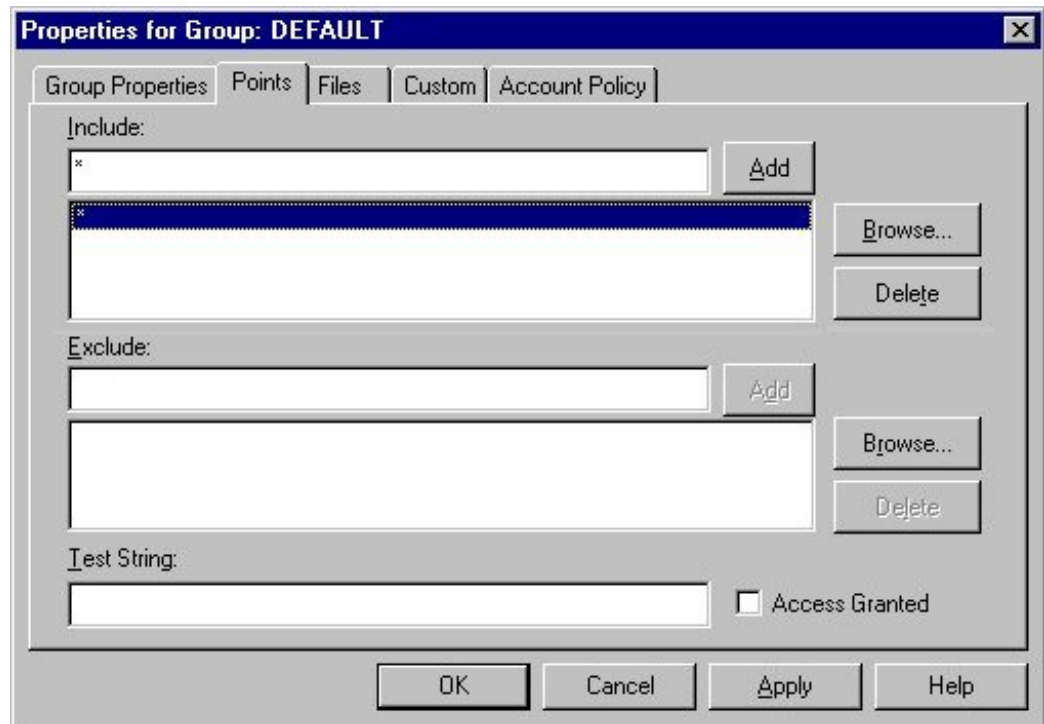

Figure 3-7: Default Group Properties Page – Points Tab
3. Select the Points tab (Figure 3-7).
- enter * to grant access to all OPC servers (Figure 3-7). Use this option when users or groups need access to browse all OPC servers and restricting access is not needed for security.